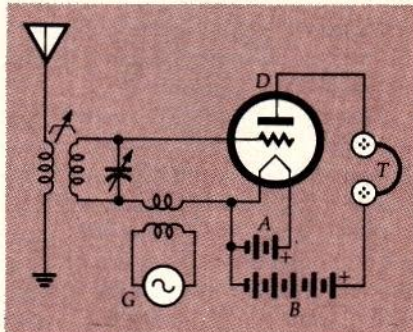

FIG. 9—IN THE HETERODYNE RECEIVER, a locally generated signal is mixed with the received signal.
However, those same receivers were not suitable for receiving Continuous Wave (CW) signals. A CW signal is simply an RF wave that is broken up into long and short pieces called a telegraph key and is not self-modulating. That problem was overcome by the invention of the heterodyne receiver by Reginald A. Fessenden in 1905. The heterodyne circuit was the basis on which Major Edwin H. Armstrong devised the superheterodyne circuit in 1918. As shown in Fig. 9, the principle behind the heterodyne receiver is quite